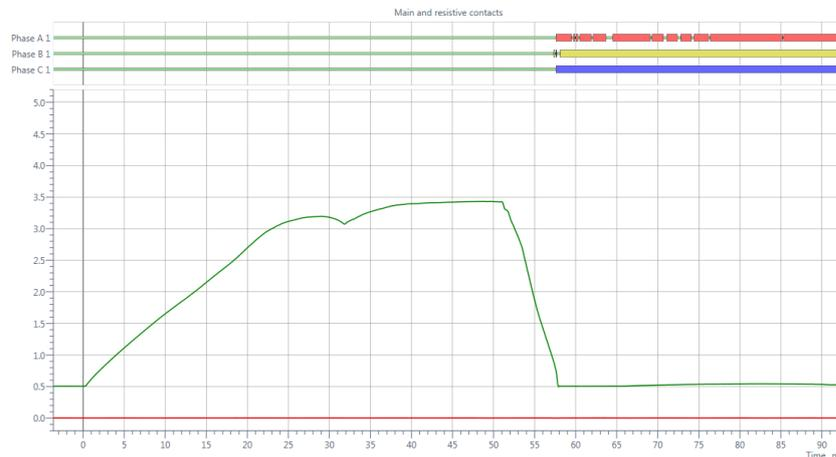

Figure 4 – Unusual Contact Bouncing
- > **Contact Bouncing** – Main Contacts, Resistor Switches, and Auxiliary Contacts can be analyzed for undesired bouncing. Phase A in Figure 4 illustrates unusual bouncing of a main contact. The measurement should be repeated, and all connections should be checked. It may be worthwhile to verify the presence of interference. If this problem is validated, it is recommended to follow-up with resistance measurements, both static and dynamic; see the contact resistance section for more information.